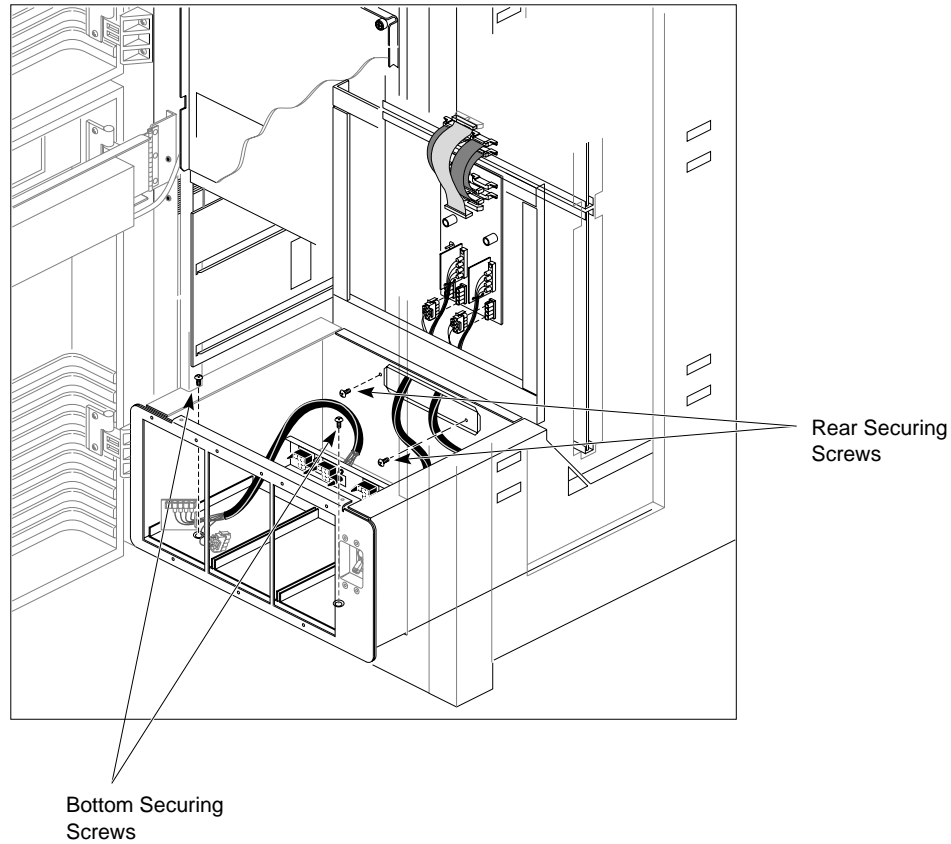

Figure 3-48 Power Supply Tray Securing Screws
15. Remove the four card guide covers from the left side of the cabinet. Each cover is mounted with a single screw (see Figure 3-48).